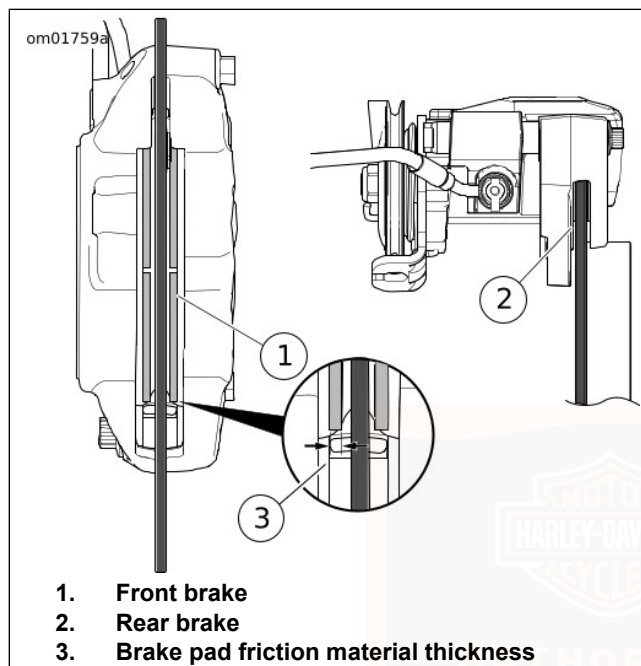

Figure 54. Brake Friction Material
1. See Figure 54. Check the brake disc or rotor as it spins. The disc/rotor should run true in the brake caliper.